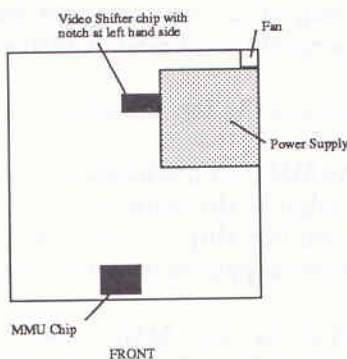

Figure 19
(4) Remove the bottom plastic part of the case from the shielding and place it to one side.
(5) Using the pliers, straighten all of the small tabs around the edges of the shielding.
(6) Squeeze the sides of the small plastic connector in the top left hand side of the top shielding (this was plugged into the clock compartment) and push it inside the case.
(7) Remove the top shielding.
(8) The MMU chip is located in its socket at the front edge of the main circuit board and the Video Shifter chip is located just to the left of the power supply board (as shown in figure 19).
(9) Plug in the MMU and Video Shifter adaptors as described on pages 14-16. Note that the Video Shifter is the other way around than